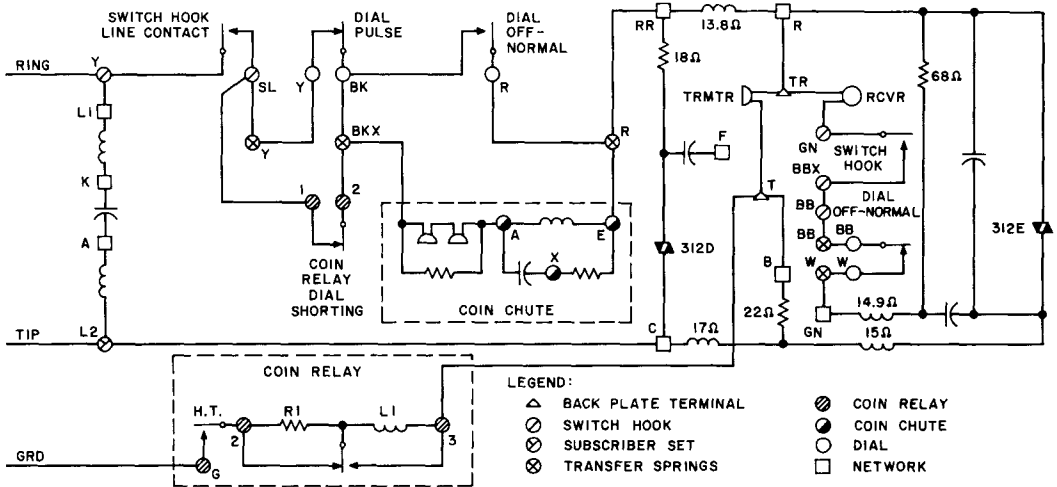

Fig. 7 — 234G Coin Collector With 685A Subscriber Set
4.01 As an aid in clearing electrical troubles, Fig. 7 through 11 provide functional schematics for coin collectors/telephones as follows:
- Fig. 7 — 234G Coin Collector With 685A Subscriber Set